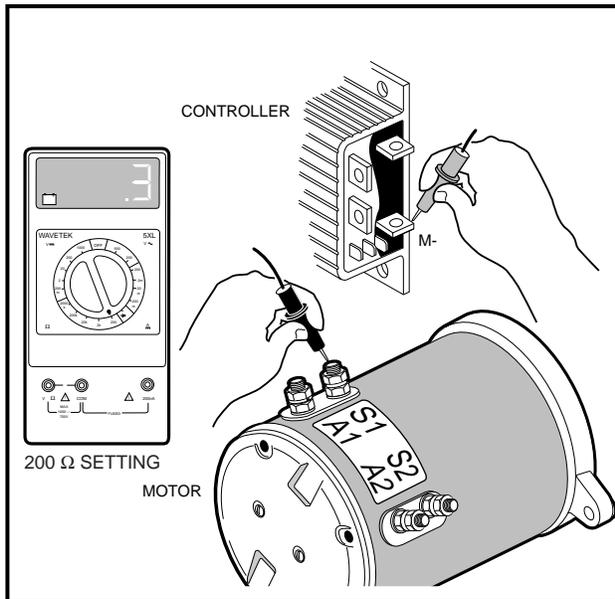

Figure 11-17 Test F&R (Forward Position)
1. Disconnect batteries and use a multimeter (set to 200 Ω) to test the F&R switch in both directions. With Forward/Reverse handle in FORWARD, place red (+) probe of multimeter on M- terminal of speed controller and place black (-) probe on S1 motor terminal. Meter should indicate continuity (**Figure 11-17, Page 11-15**).